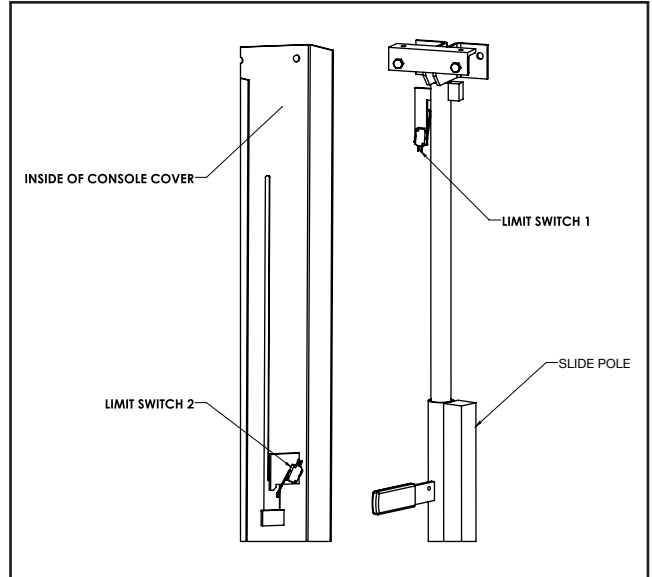

Figure 5-4-17 Wiring CB-12 control box
Connect the (2) three-wire electrical cables from the control box to the limit switches, one mounted on the cover and the other mounted on the top of the slide pole. See Figure 5-4-17.